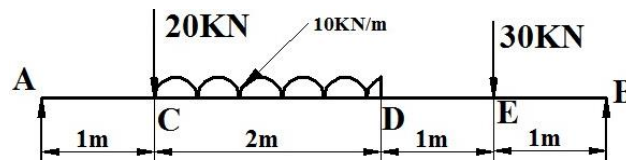

Figure 40
4. Determine the deflection at points C, D, & E in the beam shown in **Figure 40**. Take  $E=200 \times 10^6 \text{ N/mm}^2$  and  $I=60 \times 10^6 \text{ mm}^4$ .